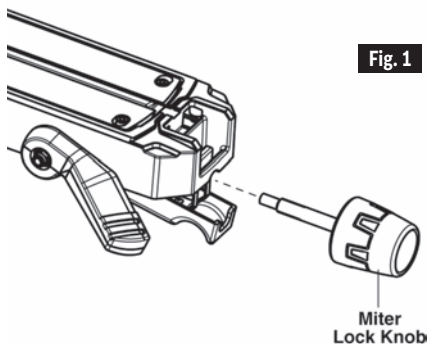

Fig. 1
1. Look under the turntable's front arm above the lock lever and locate the 10mm hole (see Figure 1).